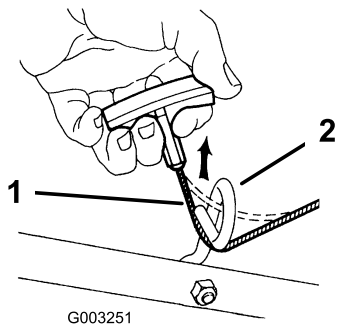

Figure 4
- Pull the starter rope through the rope guide on the handle (Figure 4).